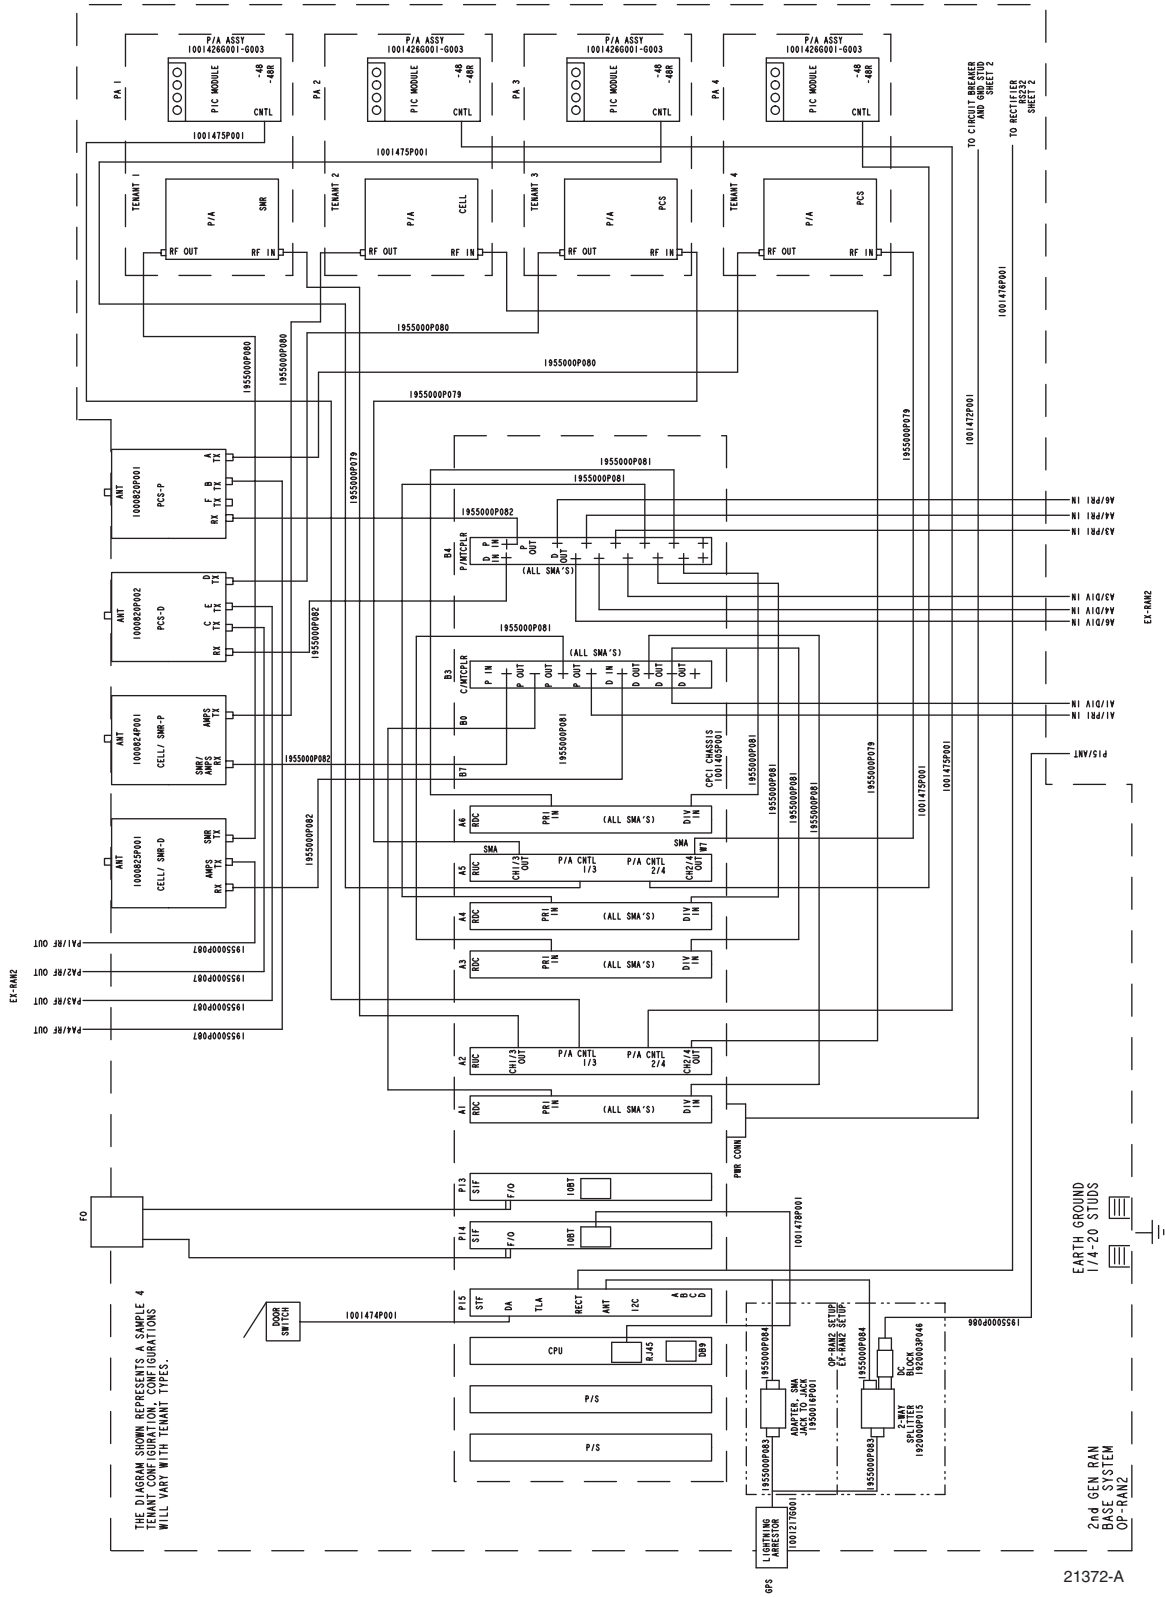
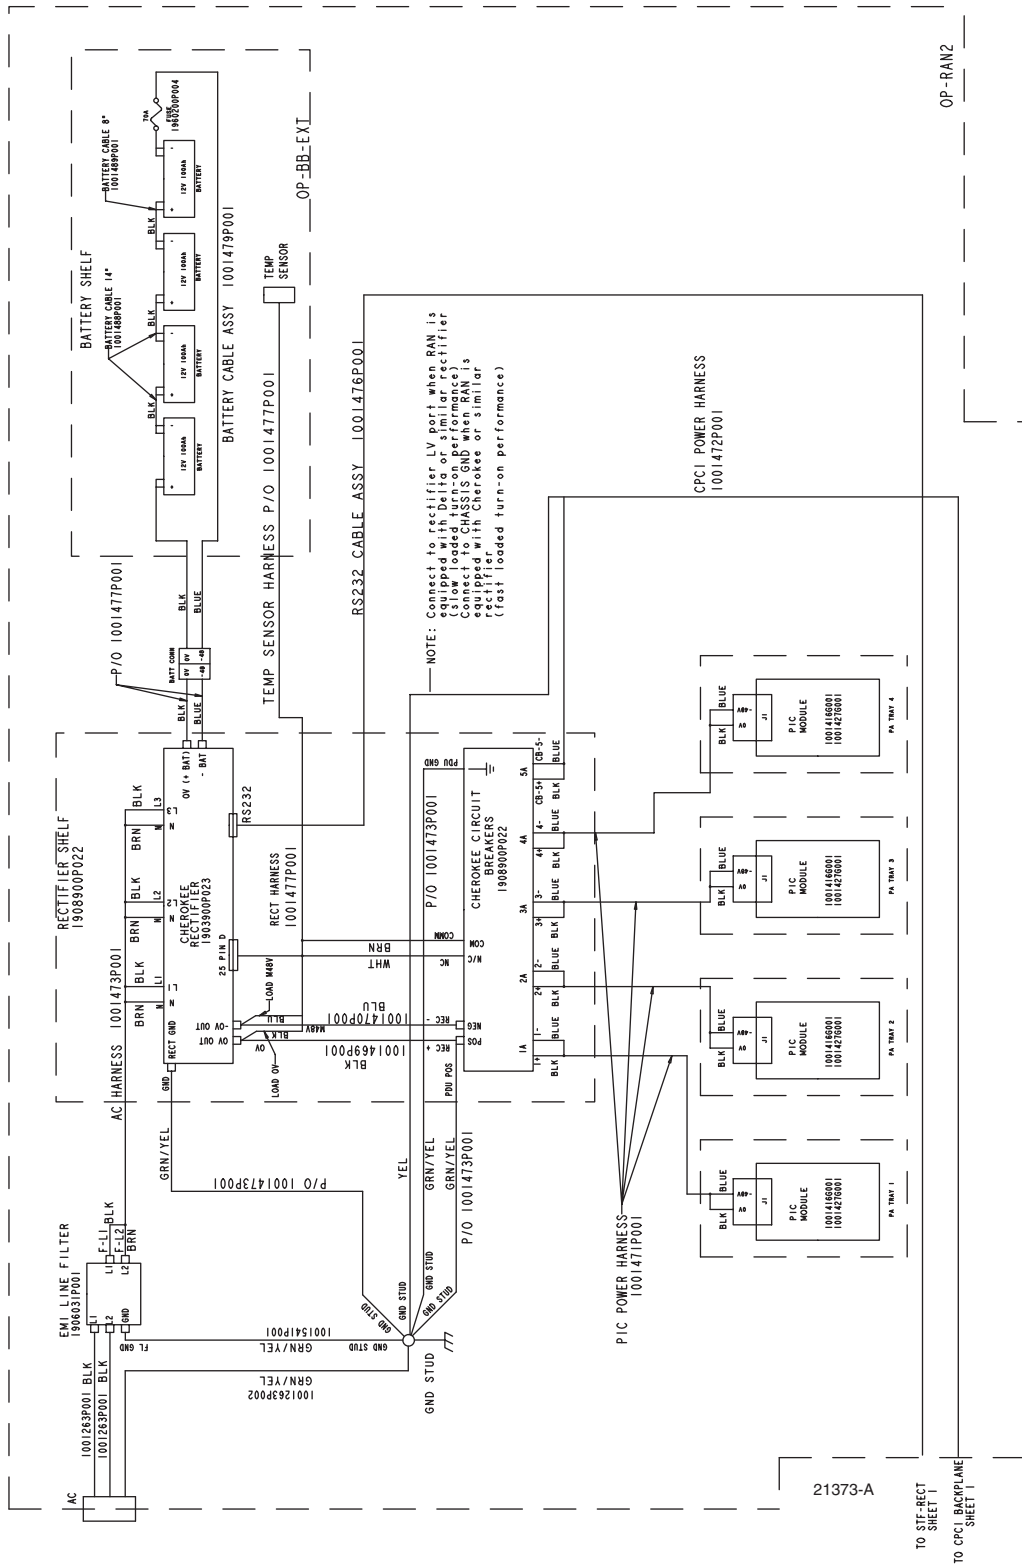

Figure 39. RAN Interconnection Diagram Part 1
Figure 40. RAN Interconnection Diagram Part 2
The interconnection diagram shown in Figure 39 and Figure 40 on the next two pages summarizes the interconnections between the RAN chassis electronic modules and other electronic components of the RAN such as rectifiers and PAAs.
- **Note:** For a description of the CPU module including function, controls, and indicators, refer to Section 1.7.2 on Page 13. For a RAN chassis interconnection diagram, refer to Figure 39 on Page 58.
- **Note:** For a description of the STF2 module including function, controls, and indicators, refer to Section 1.7.3 on Page 14. For a RAN chassis interconnection diagram, refer to Figure 39 on Page 58.
- **Note:** For a description of the SIF module, including function, controls, and indicators, refer to Section 1.7.4 on Page 15. For a RAN chassis interconnection diagram, refer to Figure 39 on Page 58.
- ▶ **Note:** For a description of the module including function, controls, and indicators, refer to Section 1.7.6 on Page 17. For a RAN chassis interconnection diagram, refer to Figure 39 on Page 58.